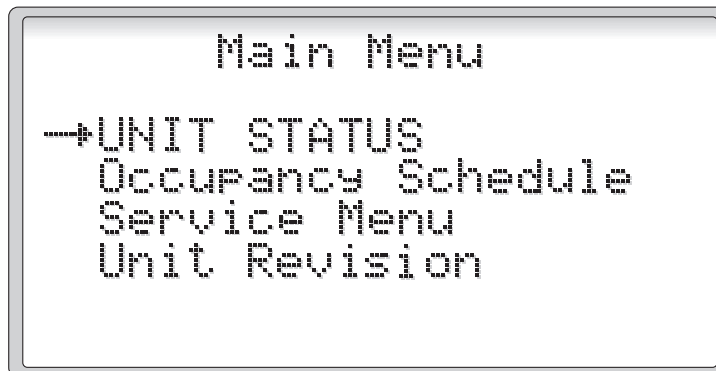

Figure 9
2.3 Main Menu (Figure 9)
Pressing the **Esc** key from the Home Screen displays the MAIN MENU (Figure 9). This menu allows the operator to view the Unit Status screens, set the Occupancy Schedule, enter the Service Menu, and view the Unit Revision.